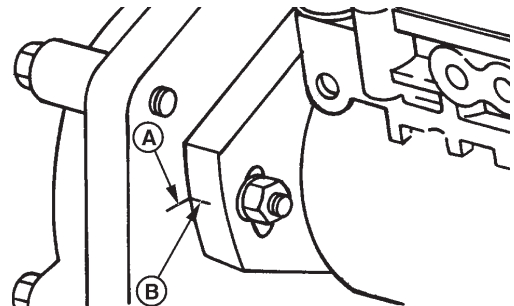

Figure 23 Reproduced by permission of Deere & Company, c.2005. Deere & Company. All rights reserved.
9. Check to make sure that timing marks on back side of front plate (Figure 23-A) and injection pump flange (Figure 23-B) are present and properly aligned. This assures that repaired or replacement pump can be properly timed to engine when installed.
IMPORTANT: Injection pump mounting flange timing mark (Figure 23-A) and front plate timing mark (Figure 23-B) presence and alignment **MUST** be verified before removing pumps from engine. **DO NOT** reference internal timing marks (on pump cam ring and governor weight retainer). If timing mark is not clearly visible on front plate, make a visible reference mark as accurately as possible in-line with mark on pump flange.